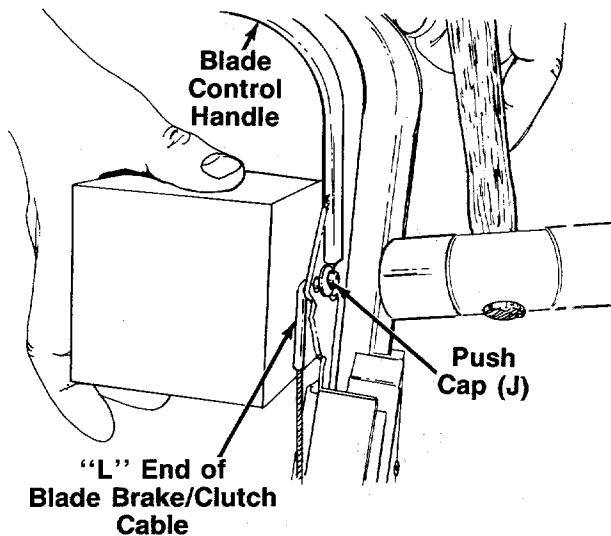

FIGURE 5.
8. Insert the "L" end of the blade/brake clutch cable into the hole in the blade brake/clutch control handle. Press push cap (J) onto the end of the cable by hand. Then tap push cap on securely, using a hammer and a block of wood as shown in figure 5.